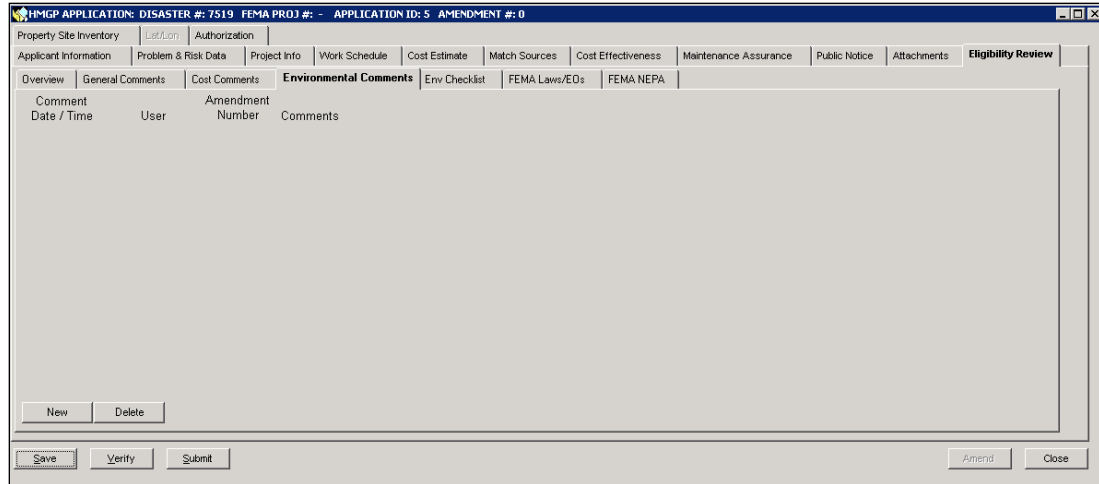

Figure 6-74: Mitigation > Projects > Application Development > Eligibility Review > Environmental Comments Sub-tab
6. Click the **Environmental Comments** sub-tab (Figure 6-74). To enter Environmental Comments, complete Steps 5a - 5c.